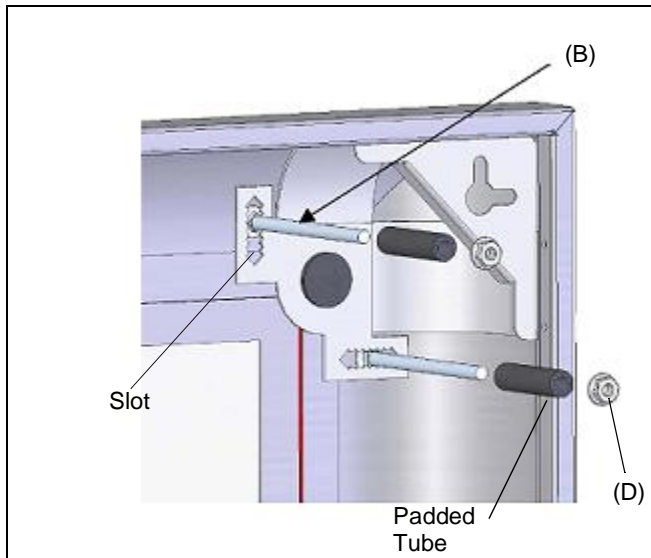

Figure 1
2. Loosen and remove flange nuts (D) and padded tubes on bolt assemblies (B). (See Figure 1)
4. Position bolts and tighten the flange nuts securely against the padded tubes. (See Figure 1)